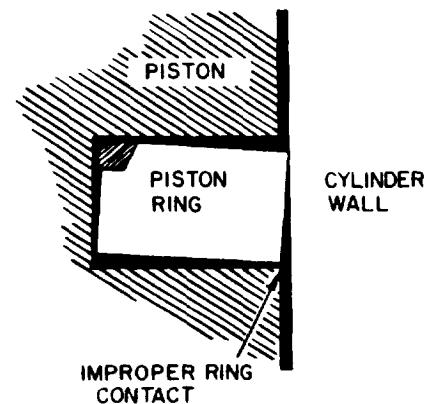

Figure 5-52. New Ring in Worn Piston Ring Groove
- (7) Improper width rings or excessive ring side clearance can result in ring breakage. New rings in worn ring grooves do not have good cylinder wall contact. See figure 5-52.